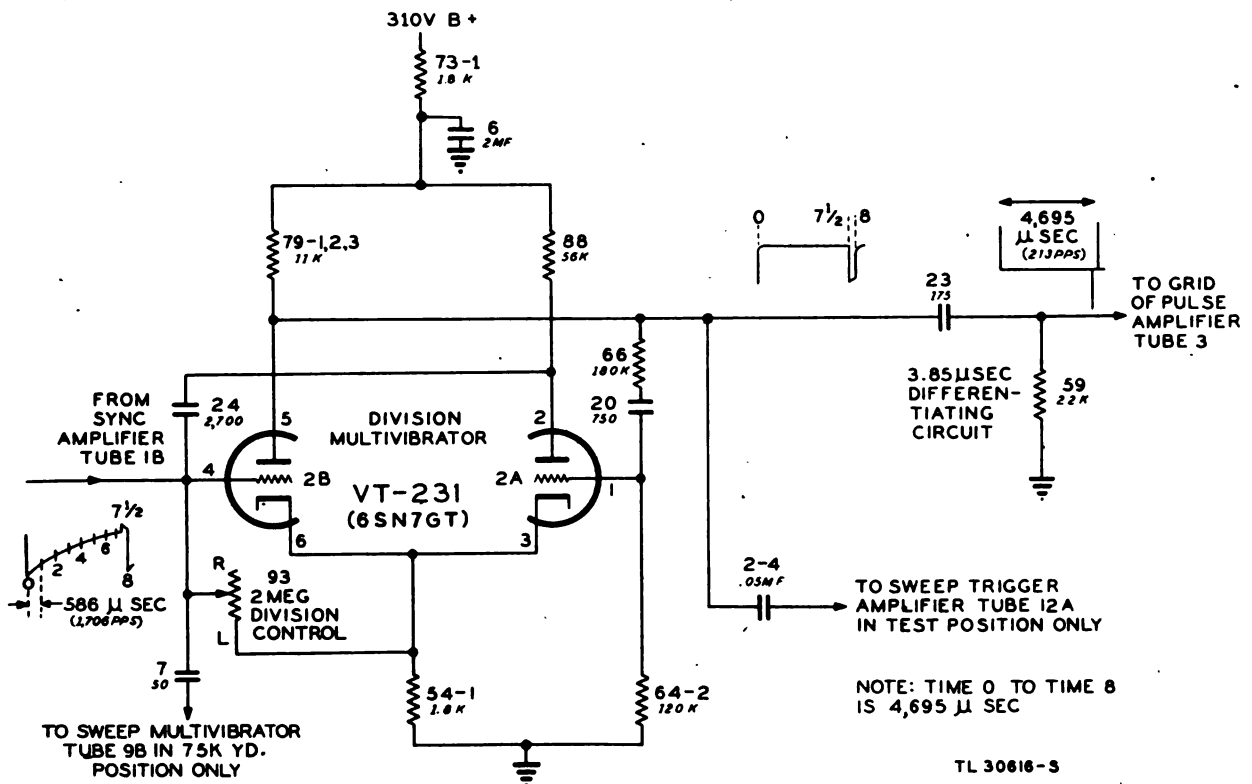
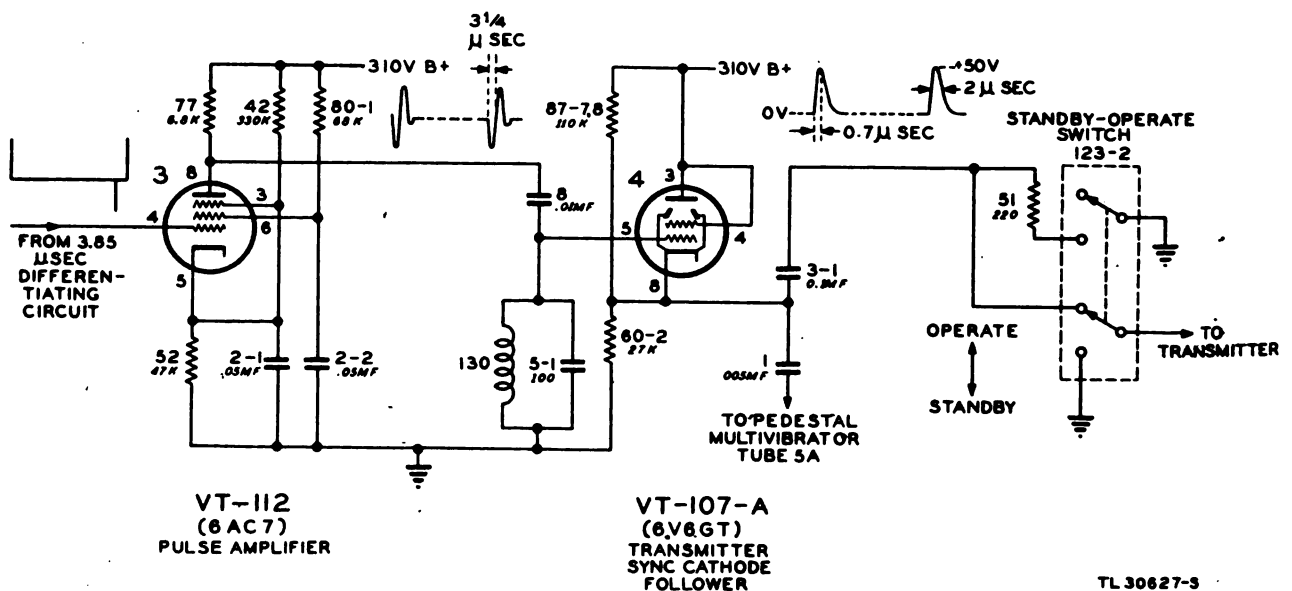

Figure 42. Division multivibrator.
Figure 43. Transmitter triggering circuits.
### 37. DIVISION MULTIVIBRATOR (fig. 42).
(1) The voltage waveform at the grid of tube 2B is coupled by capacitor 7 and through the range switch to the grid of sweep multivibrator tube 9B when the range switch is in the 75 K YD. position only. In other switch positions capacitor 7 leads to an open switch contact.
(2) The voltage waveform at the plate of tube 2B is differentiated by capacitor 23 and resistor 59 (fig. 42). The differentiated pulse is used by the grid of pulse amplifier tube 3 (fig. 43).
### 38. TRANSMITTER TRIGGERING CIRCUITS (fig. 43)
The same positive pulse output (fig. 43) which is used to trigger the IFF transmitter is also used to trigger the pedestal multivibrator. The purpose of the pedestal multivibrator is to produce a negative rectangular pulse 500 microseconds wide and with leading edge coinciding in time with the leading edge of the transmitter triggering pulse. The pedestal pulse is used in the sweep brightening mixer circuit to insure that only one out of every eight 10,000-yard sweeps is brightened.